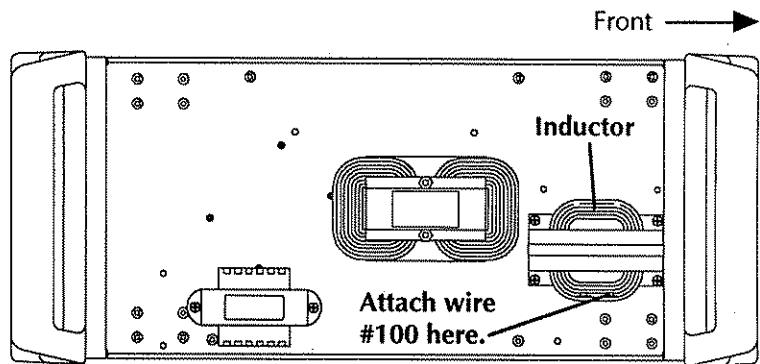

Figure 7 - Pilot Arc IGBT Connections - 3 of 3
14. Face the opposite side of the unit (fan on near side) and locate the inductor on the floor of the power supply - Fig. 7.
15. Attach wire #100 to the inductor terminal as shown in Fig. 7.